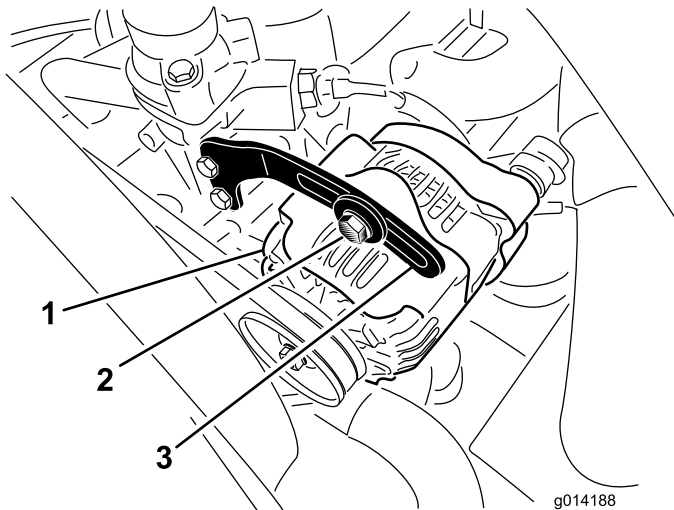

Figure 37
2. Check the tension of the alternator belt by depressing it (Figure 37) midway between the alternator and the crankshaft pulleys with 10 kg (22 lb) of force.
3. Loosen the bolt securing the brace to the alternator (Figure 37), and the alternator pivot bolt.